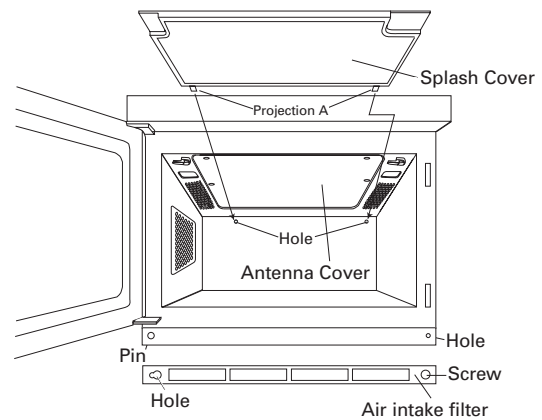

Fig.2
Remove the splash cover as shown in Fig. 2 and separate the frame from the cover.
Remember to unplug the power cord. Turn the 2 tabs holding the oven ceiling cover to the oven cavity ceiling as shown in Fig. 2, then gently pull the cover downwards to separate from the oven cavity ceiling. Then separate the cover from the frame. It is held in place by 4 catches.
Remember to unplug the power cord. Replace the cover in the frame. Insert projection A (2) into the 2 holes in the rear cavity wall and then insert projection B (2) into the 2 holes in the oven cavity ceiling as shown in Fig. 2. Then slide the tabs in place.